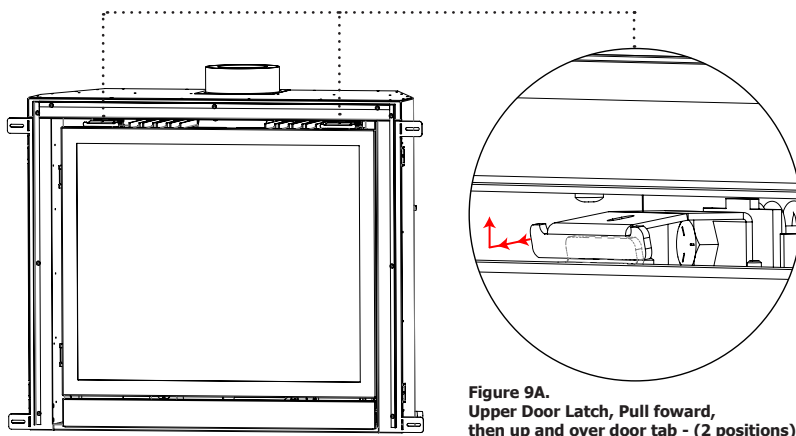

Figure 9A. Upper Door Latch, Pull forward, then up and over door tab - (2 positions)
Step 2. To remove the glass door use your two index fingers to pull the spring latches up over the two door tabs. Fig.9A